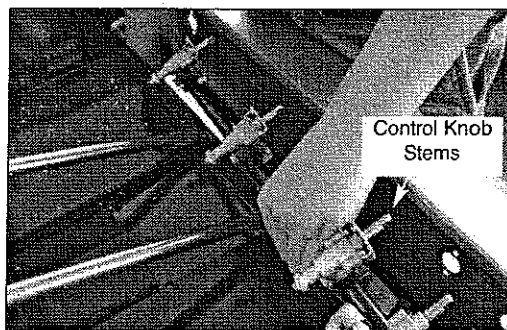

Fig 15
16. Start by placing the new manifold into the grill body with the control knob stems facing outward through control panel front. (See Fig. 15)